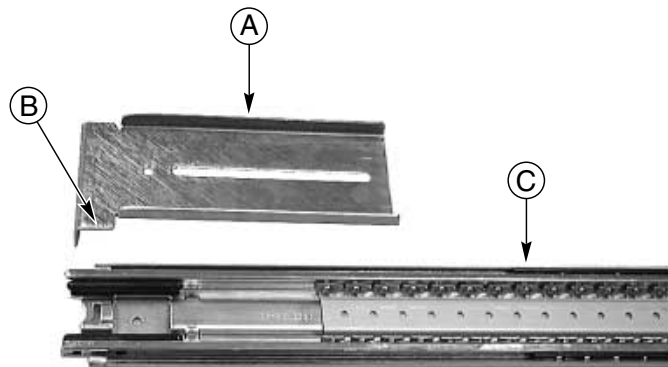

Figure 4 FL/RR Bracket Orientation
Figure 4 shows how the FL/RR bracket is oriented and how the slide rail assembly is extended.
3. Place one of the brackets labeled FL/RR on the outside of the outer member. The lower tongue of the bracket must be oriented correctly. Item B in Figure 4 shows the bracket's correct orientation.